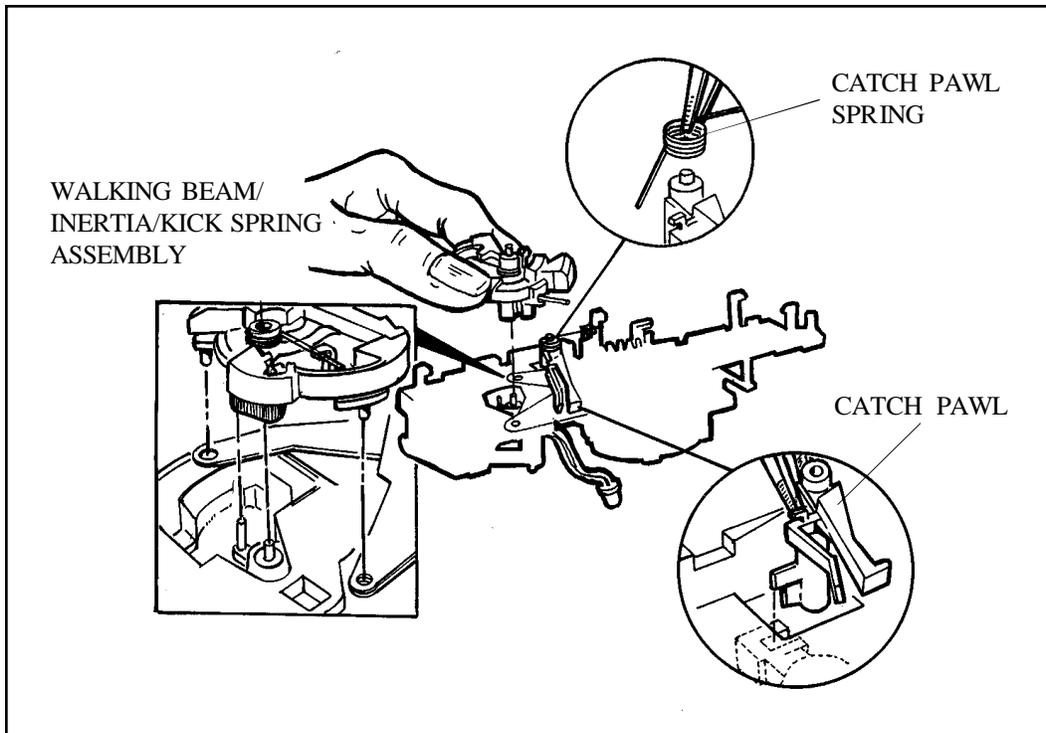

Figure 3-39. Removing Catch Pawl and Spring, and Walking Beam/Inertia/Kick Spring Assembly
- e. Remove the Catch Pawl Spring (Figure 3-39).
- f. Remove the Walking Beam/Inertia/Kick Spring as an Assembly (Figure 3-39).
- g. Remove the Catch Pawl (Figure 3-39).